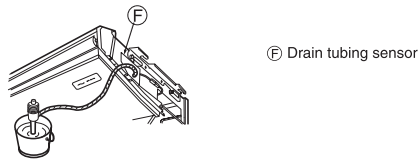

Fig. 5-3
1. Attach the joint socket ⑤ supplied with the unit to the drain port on the unit with a vinyl chloride adhesive.
2. Fasten the socket cover ⑥ supplied with the unit to the joint socket ⑤.
3. Attach a PVC pipe (O.D. ø26 mm, 1-1/32 inch) to the joint socket ⑤ with a vinyl chloride adhesive.
4. Wrap the drain tubing cover ⑦ supplied with the unit. (Seam taping)
5.3. Drain check (Fig. 5-3)